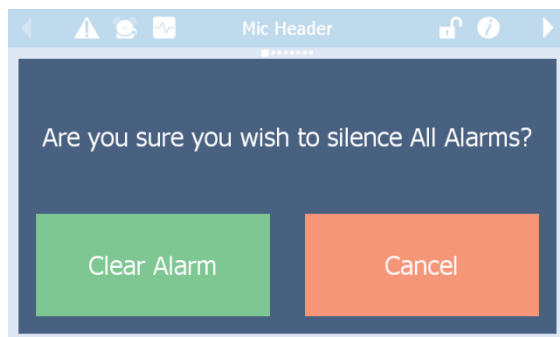

Figure 5.4-7: Silence All Alarms Prompt
- (A) **Silence All Button** – Touching this will clear or silence all alarms in the system, after confirmation by touching the green button in the Silence All Alarms prompt (Figure 5.4-7).
- (C) **Alarm Description** – Descriptions of the active alarms appear in this list in plain text form.
- (D) **Silence Button** – Touch this to silence an individual alarm, after confirmation similar to prompt shown in Figure 5.4-7. If there are multiple alarms in the list, each will have its own silence button.
- (E) **Window Close Control** – Touch this X to close the Alarm Status window. Alternately, touching anywhere on the icon bar above the window will close it.